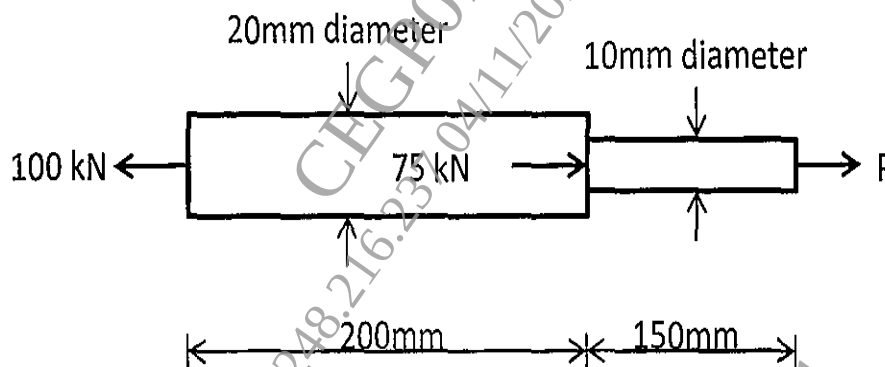

Figure 1
- Q1) a)** Two solid circular bars are as shown in figure 1. Determine force P required for equilibrium. Also find stress in each bar and total change in length of the assembly. [8]